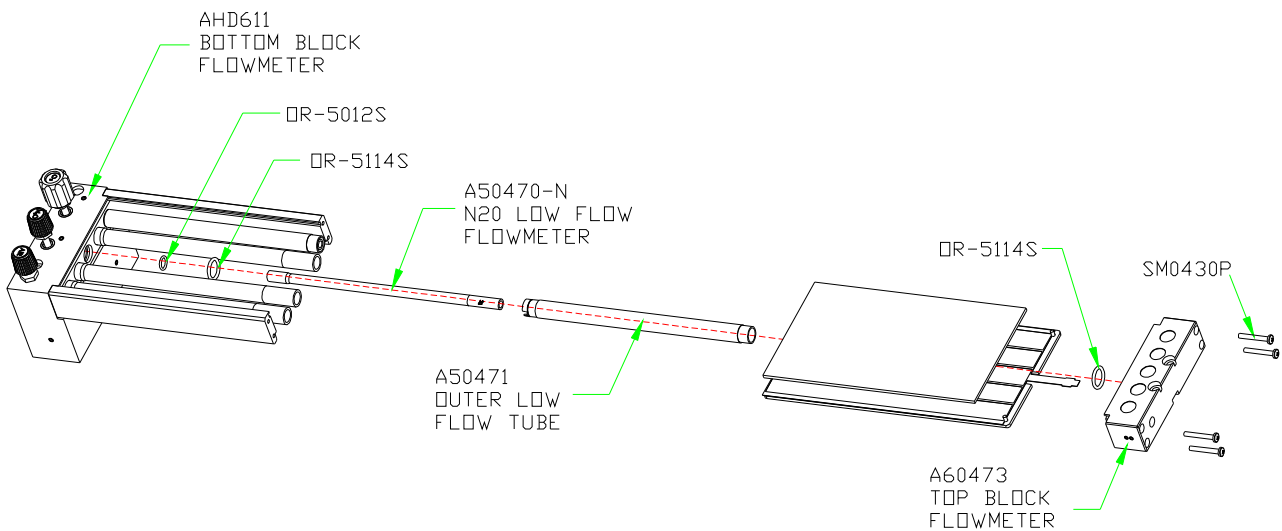

Figure 23: Components to be removed from AHD60 Flow meter
4. Service of o-rings OR-5012S and OR-5014 from AHD60 flow meter. Refer to Figure 23.